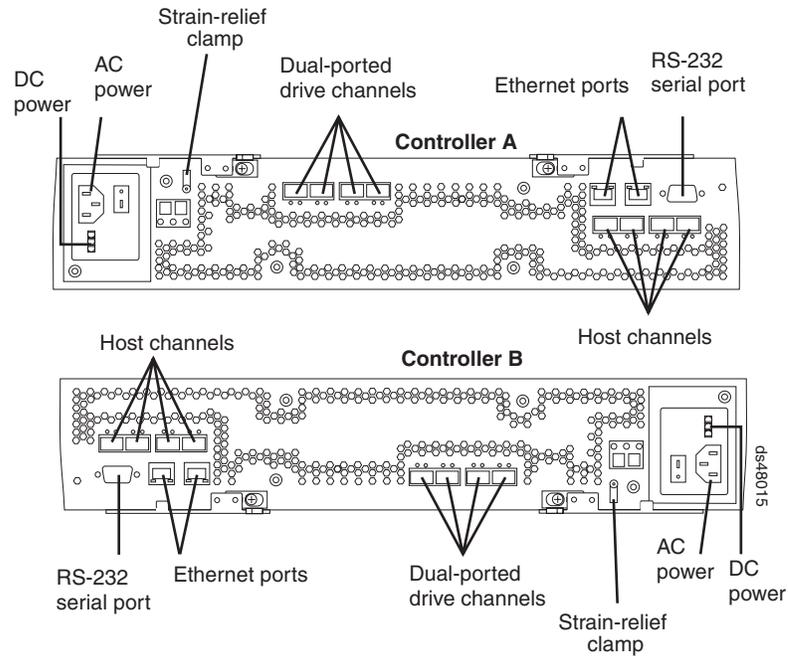

Figure 74. Connectors on the back of each controller
7. Disconnect all attached interface cables from the failed controller, including the SFP modules. Ensure that you label each cable so that you can reconnect them correctly to the new controller. Figure 74 on page 119 shows the location of the connectors on the back of a controller.